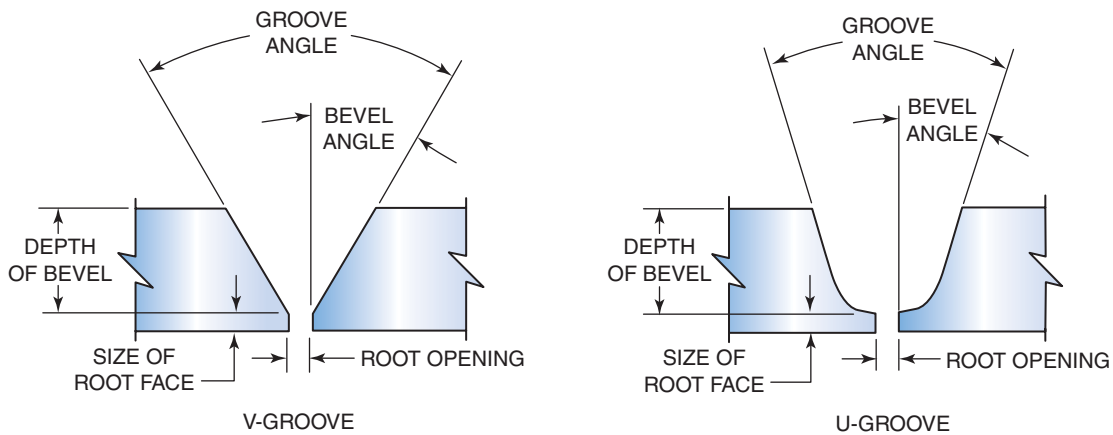

Figure 3.4 Groove terms
- **joint dimensions**—The depth and/or angle of the preparation and the joint spacing can be changed to make the weld, Figure 3.4.